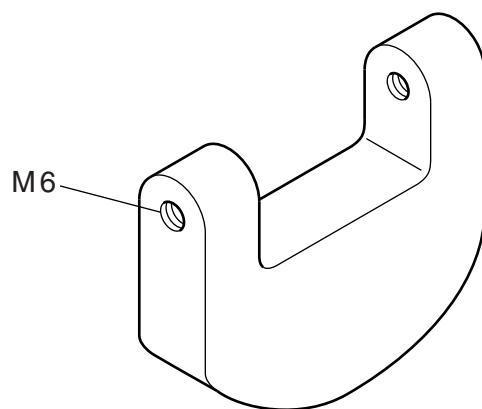

Fig. 2
- 2 Fig. 2 shows the frame of a micrometer.